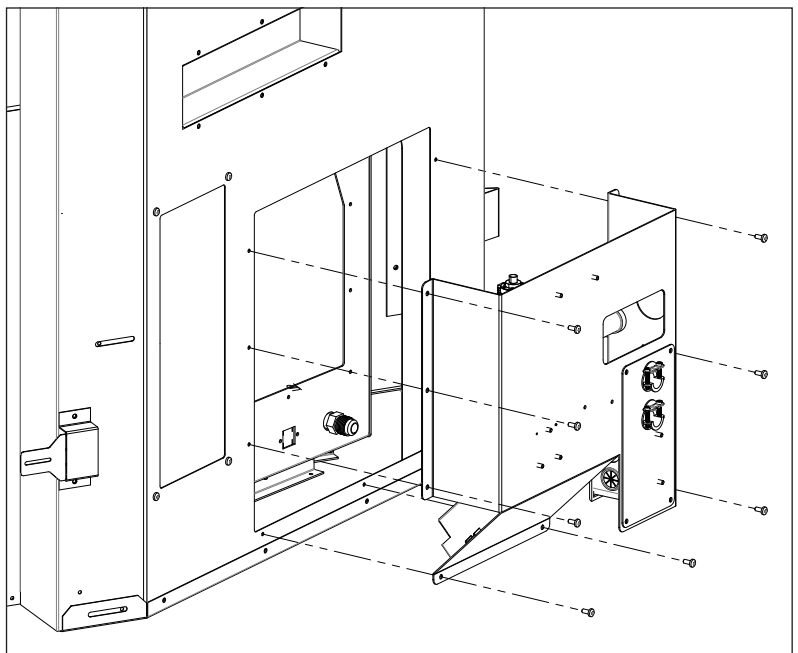

Figure 13: Component Backpack Removal
The component backpack houses the valve, IFC and fuses for the fireplace. It is located on the back right side of the unit. To remove the backpack and access the components, remove the eight (8) T-20 screws around the perimeter (see Figure 13).